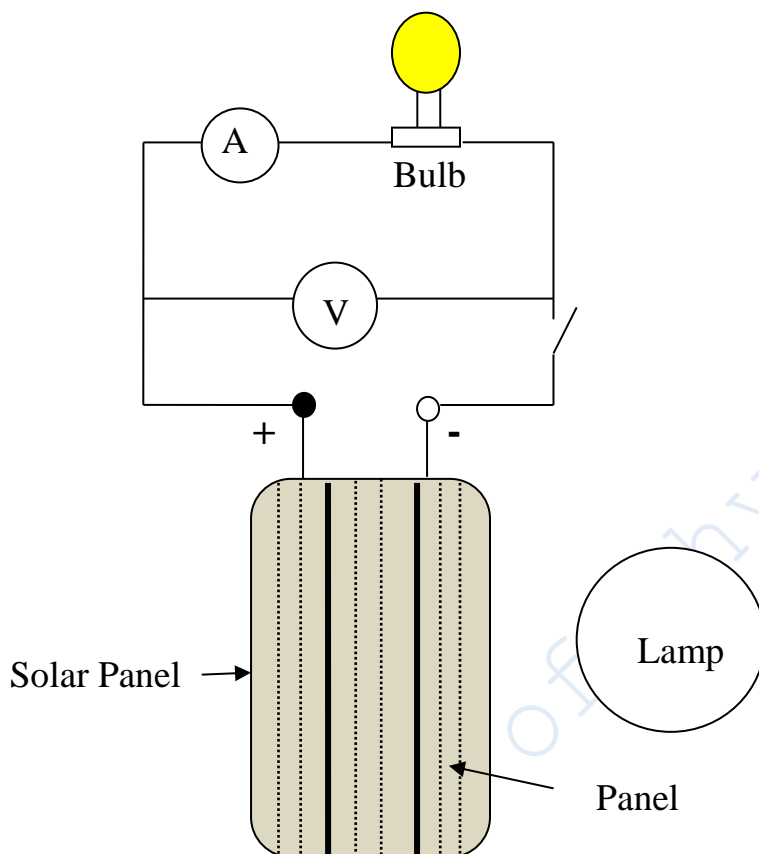

Fig 1. Circuit arrangement of PV solar panel
1. Using one panel, connect the miniature light bulb as the load and measure and record the current and voltage by connecting an ammeter (1A ammeter) in series with the bulb and a voltmeter across the PV panel terminals as shown in Fig 1. below. Calculate the power being delivered to the bulb. Also note the brightness of the miniature bulb. (**DIM, BRIGHT, BRIGHTEST**).